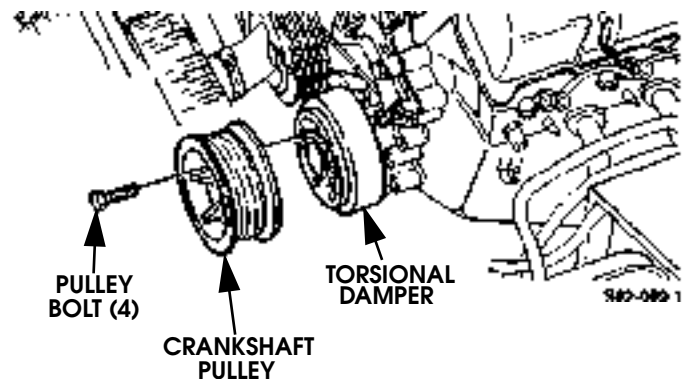

Figure 2-14: Crankshaft Pulley Mounting
1. Loosen (but do not remove) crankshaft pulley bolts (Figure 2-14).
12. Remove crankshaft pulley (Figure 2-14).